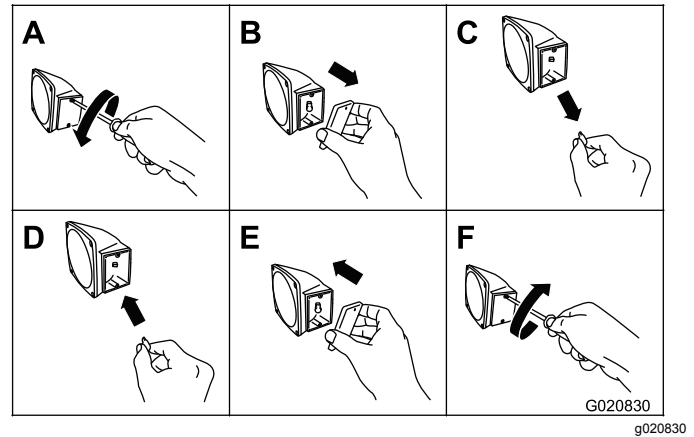

Figure 54
1. Use a screwdriver to remove the 2 screws from the small rectangular lens on the side of the light (Figure 54).
2. Remove the lens (Figure 54).
3. Pull the bulb out of the socket (Figure 54).
4. Push a new 168 bulb into the socket (Figure 54).
5. Install the lens and the 2 screws (Figure 54).